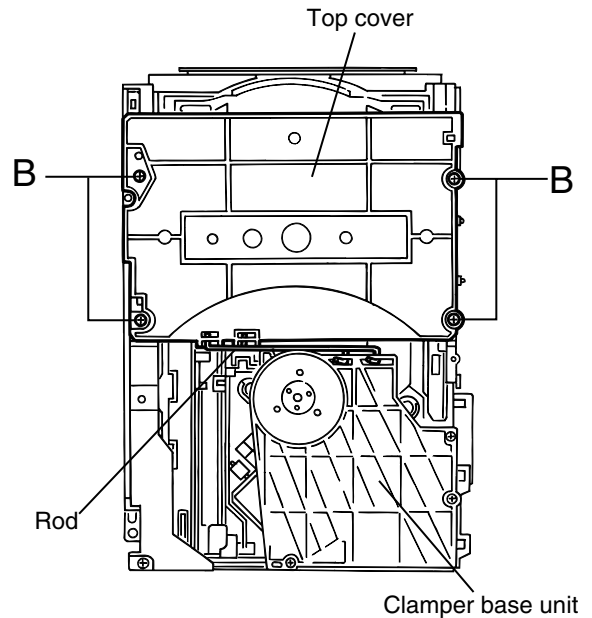

Fig.5
**■ Removing the tray unit (See Fig.5 to 8)**